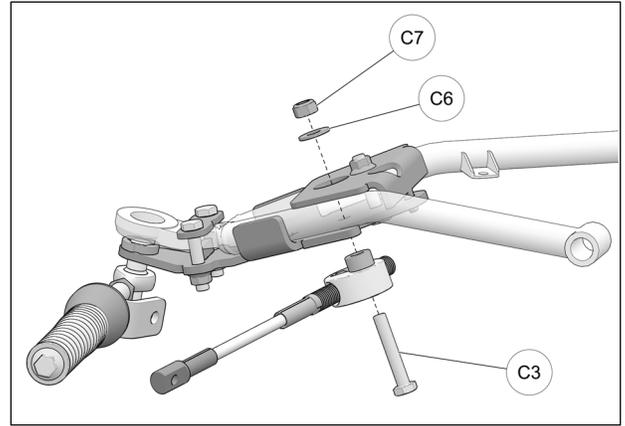

Fig. 16
11. Slide steering limiter cable assembly over bolt (C3) and insert the parts in the central hole under anchor bracket. Pass washer (C6) and nut (C7) down through opening in bracket cover and secure steering limiter assembly to anchor bracket. Tighten nut to 50 N•m [37 lb•ft]. Refer to Fig. 16